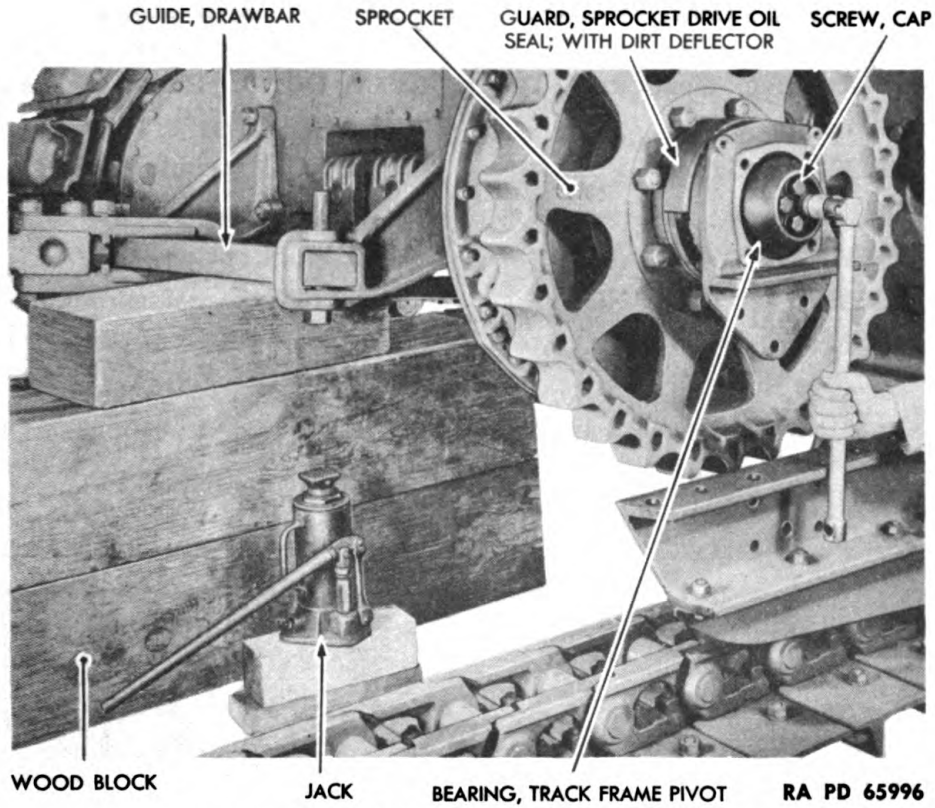

Figure 119 – Track Frame Pivot Bearing Removal
(2) REMOVE TRACK FRAME PIVOT BEARING (figs. 119 and 183).